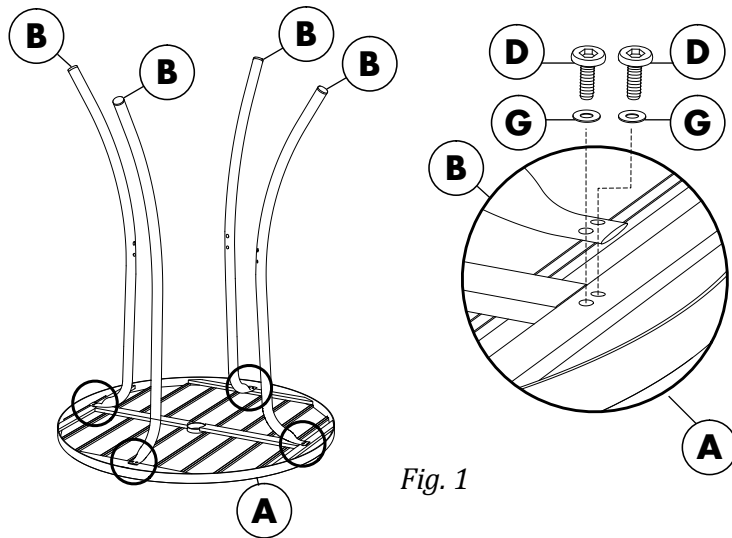

Fig. 1
Turn Table (A) upside down and lay it on the ground. Insert two Screws 1/4"x13mm (D) with Washers (G) through the screw holes at the end of Leg (B) {see fig. 1} and into the rim of Table (A). It is advised to keep all parts loose until assembly is complete. Follow these steps for the three remaining Legs (B) at each side of the Table (A).